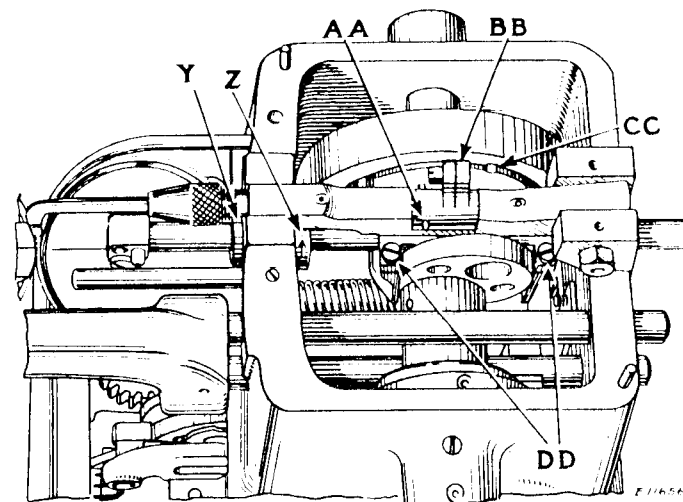

Fig. 10
The pressure between the feed discs may be increased by turning the screw (CC, Fig. 10) to the right, or decreased by turning this screw to the left. Do not use a heavier pressure than is necessary for positive feeding of the work.
To remove this roller without disturbing the cam, remove the taper pin (AA, Fig. 10), draw out the looper shaft and remove the roller arm (BB, Fig. 10) with the roller. Note that the roller can be removed or replaced in the cam raceway only through the cut at (CC).
The needle bar bushing (Y, Fig. 10) is split and may be drawn in to take up any play which develops by turning the threaded collar (Z) in the direction indicated by the arrow in Fig. 10. This collar is provided with holes and may be tapped around with a small punch.
The needle bar may be set to the correct position after loosening the two clamp screws (DD, Fig. 10).
See that the needle bar is turned so that the side of the tension plate (HH) is about square with the surface of the disc. Align the groove in the needle guard (KK) with the needle, and have the needle locate in the center of the groove; then tighten the clamp screws (DD, Fig. 10). These screws need not be excessively tight.